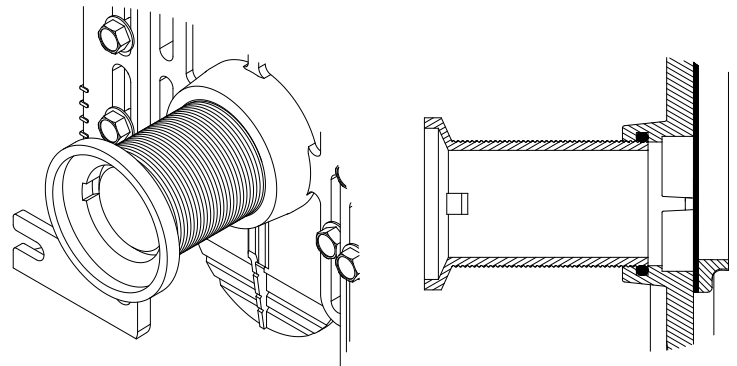

Fig. 10
- a. Standard, -CS, and -CC Couplings (Z) - Thread the coupling into the faceplate by hand until it engages the o-ring and begins to resist. Using a coupling wrench (Z1200-CPLG-WRNCH-3 purchased separately), continue to turn the coupling into the o-ring to create a water-tight seal. See Fig. 10